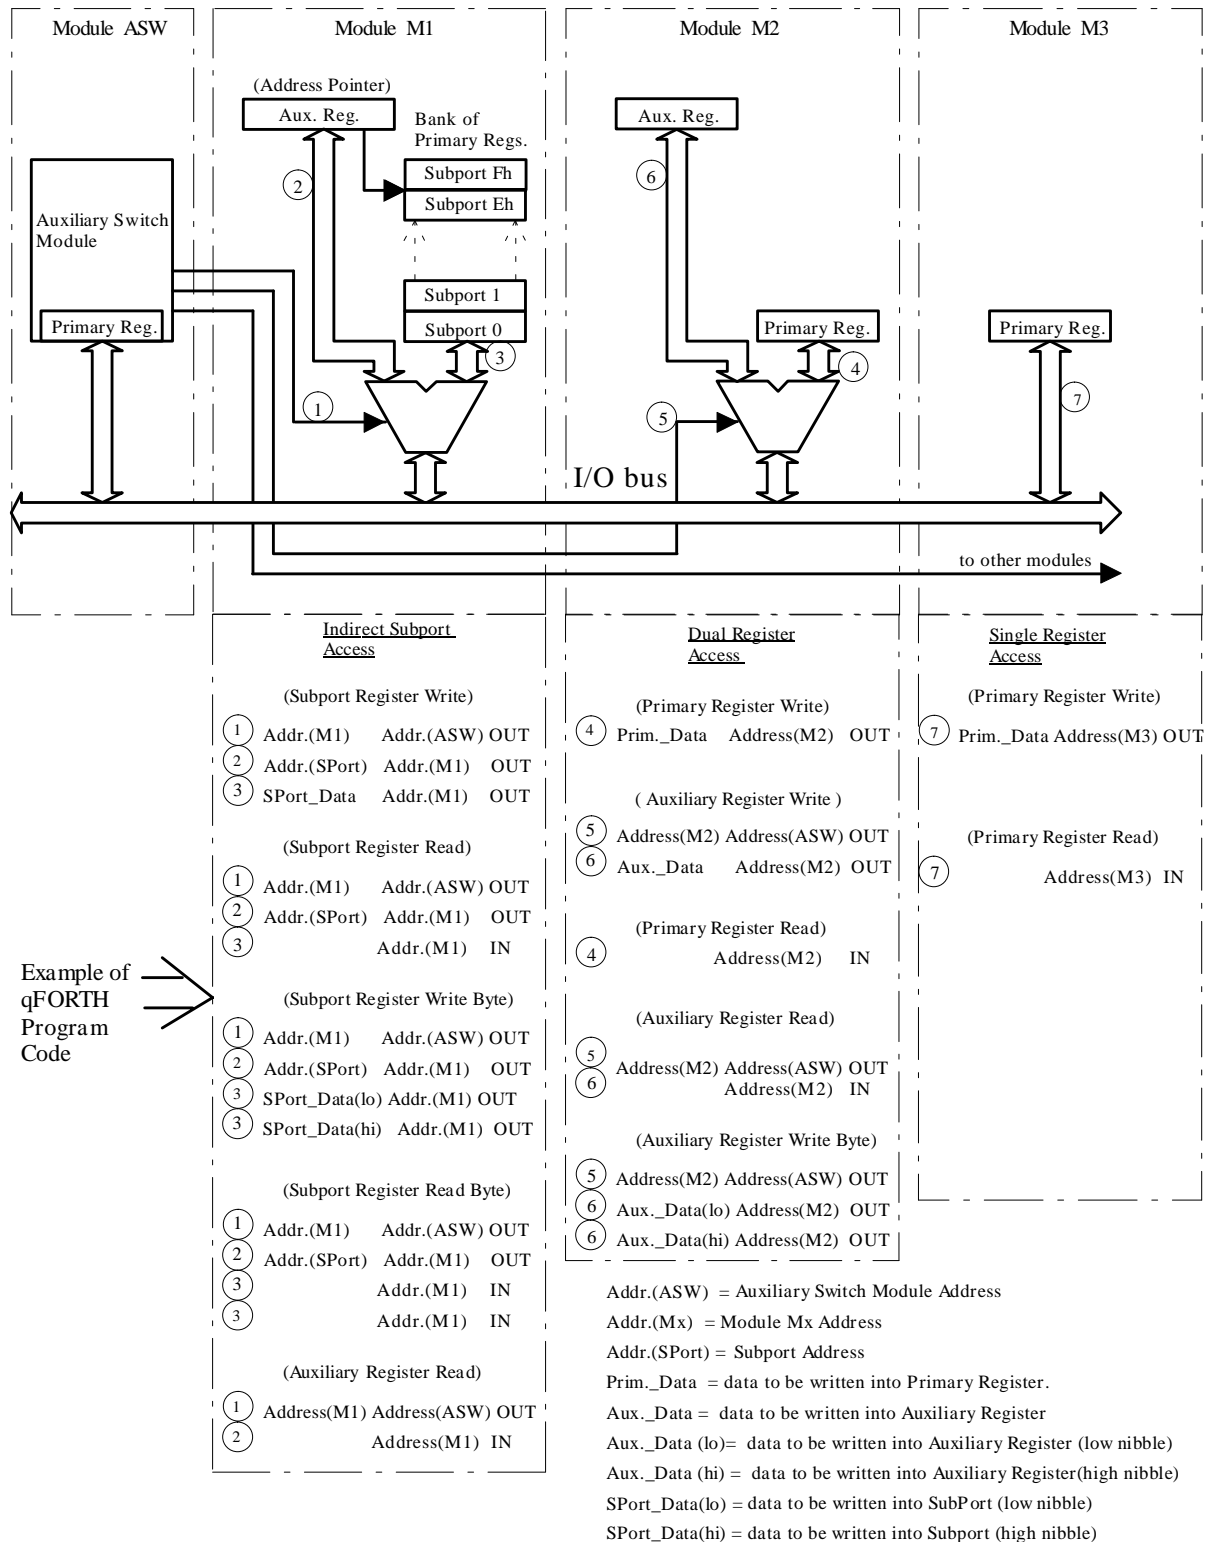

Figure 17. Example of I/O addressing
For trimming purposes, the M44C588 can be put into a clock monitor mode. The test input (TE) has to be forced high, whereupon the SYSCL clock will appear on BP11 (Port 1, bit 1) and SUBCL clock on Port BP10 (Port 1, bit 0). To put BP10 and BP11 back into normal operation, the TE-pin has to be released again (see figure 17).